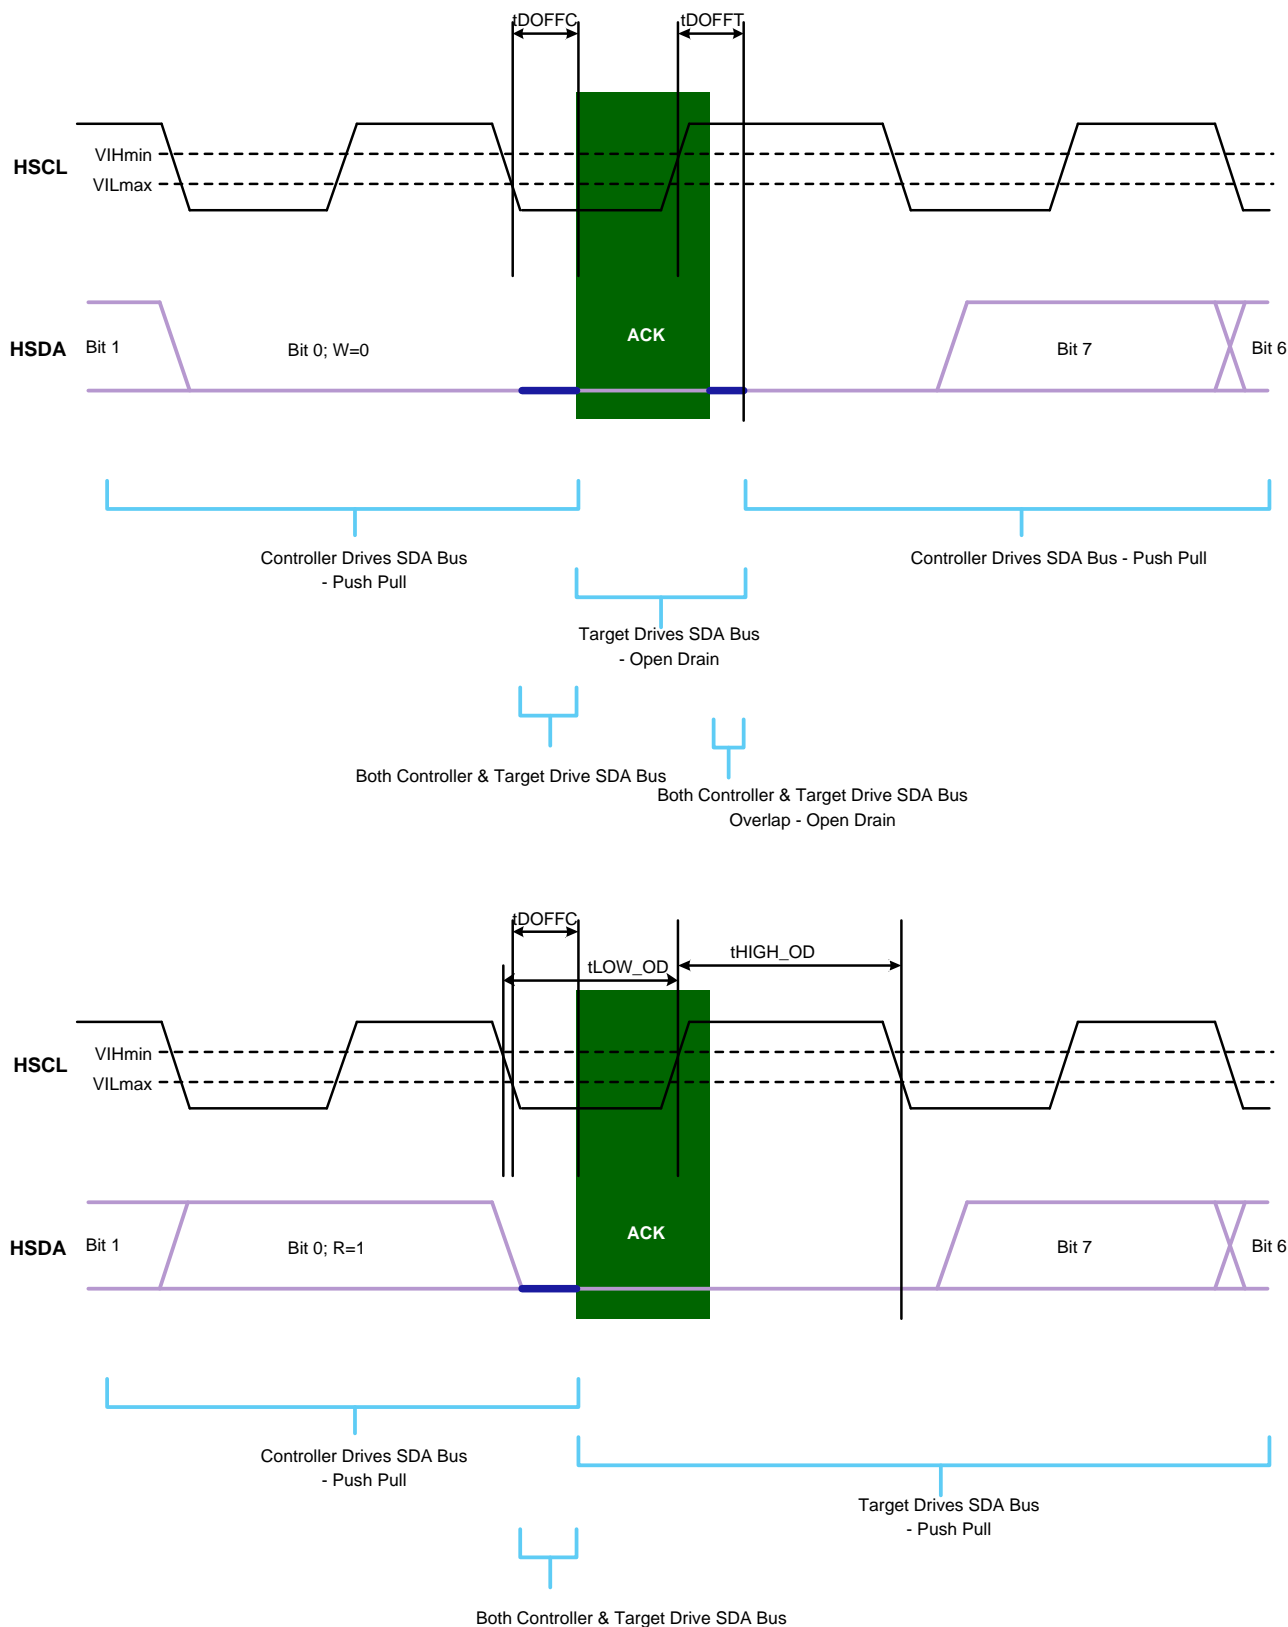

Figure 13 Controller Push Pull to Target Open Drain Hand Off Operation
5. See Figure 13 to see how the transition occurs from Host Push Pull Operation to Target Open Drain (ACK).
2. See Figure 13 to see how the transition occurs from Host Push Pull Operation to Target Open Drain (ACK) and Figure 7 to see how the transition occurs from Target Open Drain (ACK) to Host Push Pull Operation (1st bit of Address, bit[7]).
- See Figure 13 to see how the transition occurs from Host Push Pull Operation to Target Open Drain (ACK) and See Figure 7 to see how the transition occurs from Target Open Drain (ACK) to Host Push Pull Operation (1st bit of Address, bit[7]).
- See Figure 13 to see how the transition occurs from Host Push Pull Operation to Target Open Drain (ACK).
3. See Figure 13 to see how the transition occurs from Host Push Pull Operation to Target Open Drain (ACK).